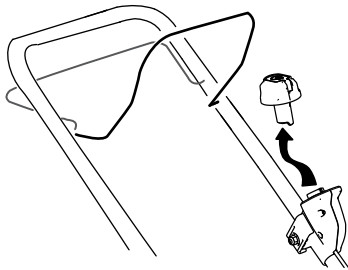

Figure 16
1. Remove the electric-start button (Figure 16).